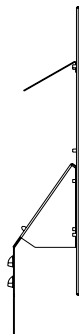

Figure 58
3. Make 3 hand bends on wind shield as shown below in **Figures 58, 59, and 60.**